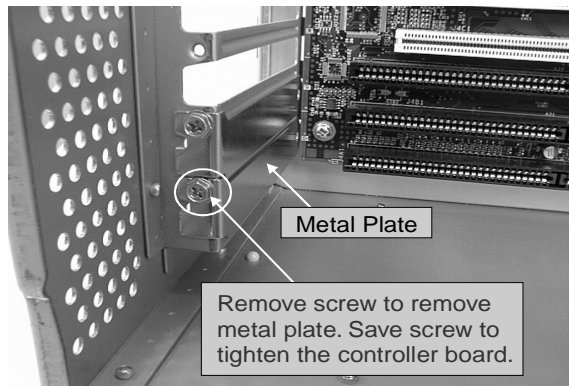

Figure 2-4. Remove the Metal Plate
2. Remove the metal cover plate from the slot's access port (usually at the back of the cabinet). Save the retaining screw as shown in Figure 2-4.
6. Use the retaining screw (see Figure 2-4) to tighten the controller board by its mounting bracket. The controller board will go into the space created when you removed the metal plate.